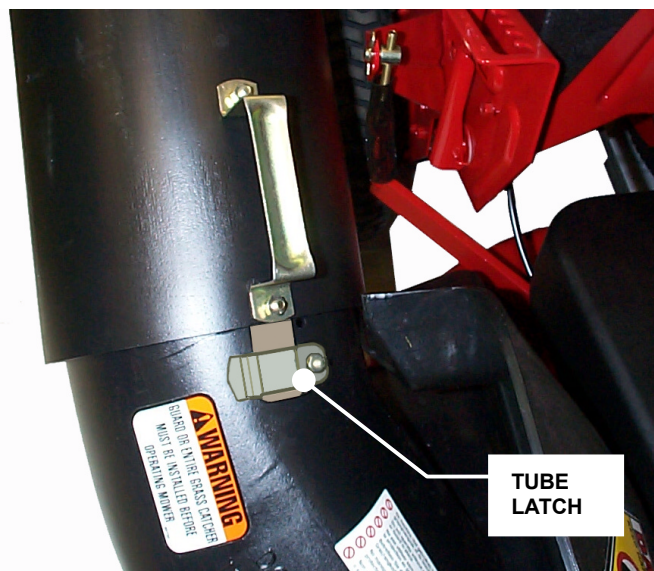

FIGURE 1.17
E. Attach tube latch to deck adapter. Insert one 1/4-20 x 3/4" Carriage bolt from inside through lower hole in adapter. Place Tube Latch over bolt, followed by 1/4" Internal Tooth lock washer and secure with 1/4-20 hex nut. Align Tube Latch as shown and tighten securely. See Figure 1.17.